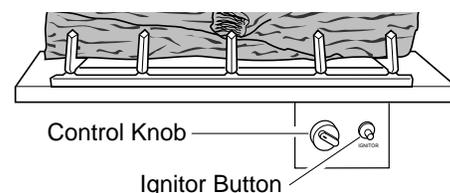

Figure 43 - Control Knob and Ignitor Button Location
4. Wait five (5) minutes to clear out any gas. Then smell for gas, including near the floor. If you smell gas, **STOP!** Follow "B" in the safety information above. If you don't smell gas, go to the next step.
5. Slightly depress and turn control knob counterclockwise to the PILOT position. Press in control knob for five (5) seconds (see Figure 43).